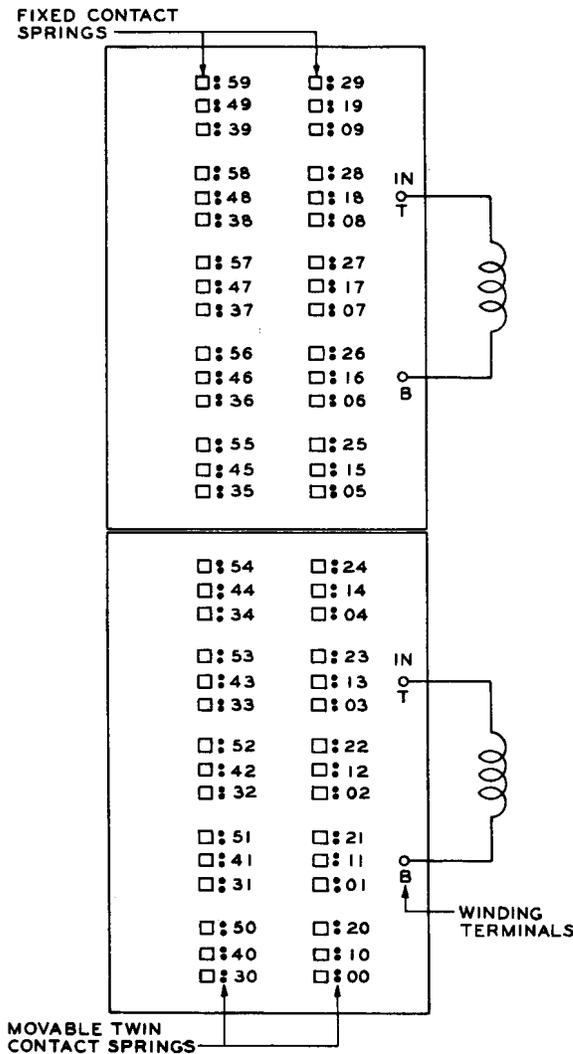

Fig. 59 – Winding and Contact Spring Arrangement as Viewed From the Front (contact side) — 287- and 288-Type Relays
(1) As viewed from the front of the relay, there are 60 make contact positions arranged in two vertical rows of 30 positions each. Each vertical row is divided into ten groups of three positions. Each position has a single fixed contact spring and movable twin contact springs. The movable twin contact springs are at the right of their associated fixed contact springs. The contact arrangement and the numbering of the contact springs are shown in Fig. 59.
(2) Referring to the figures, all contact positions are designated by 2-digit numbers. The ten groups of three contact positions in